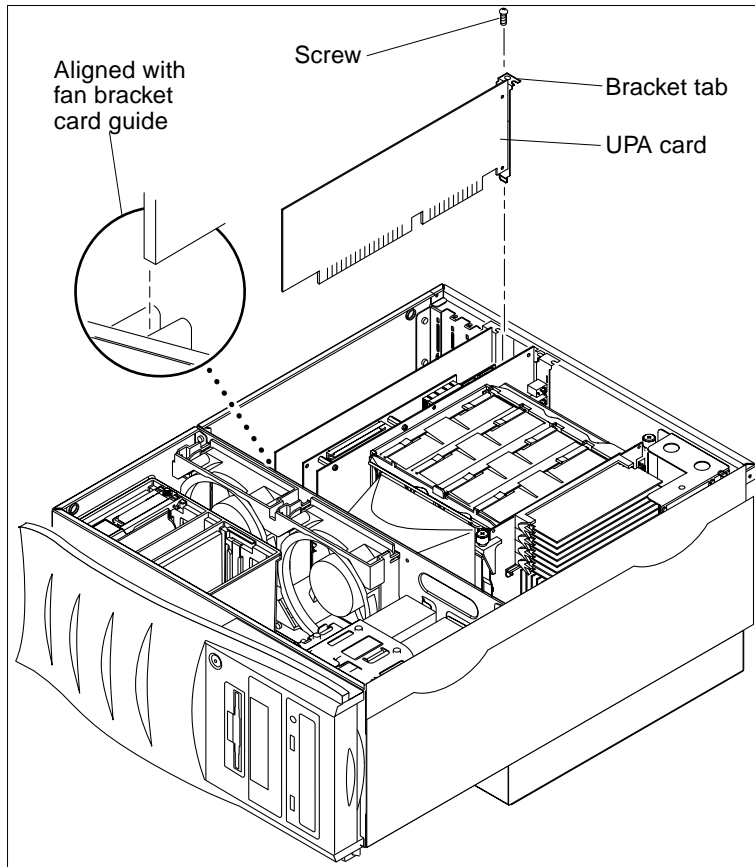

FIGURE 9-5 Removing and Replacing a UPA Graphics Card
4. Remove the UPA graphics card as follows (FIGURE 9-5):
1. Replace the UPA graphics card as follows (FIGURE 9-5):